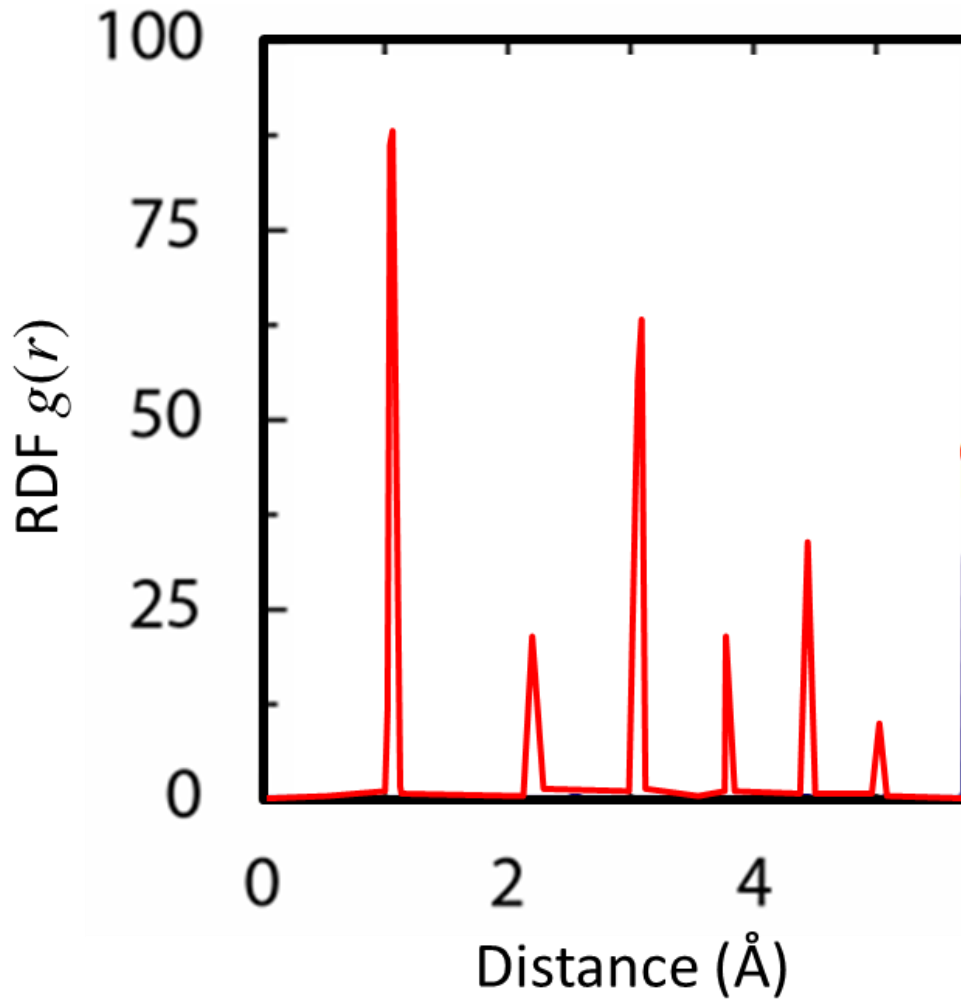

Figure C2: Radial Distribution Function (RDF), to be used to identify parameters of the pair potential.
- (e) By considering the RDF shown below (Figure C2) and noting that the bond stiffness of each bond is 1 eV/\AA^2 , the bond energy is 1 eV , and that bonds break at a distance 20% larger than their equilibrium distance, identify all potential parameters a , b , c , and d .